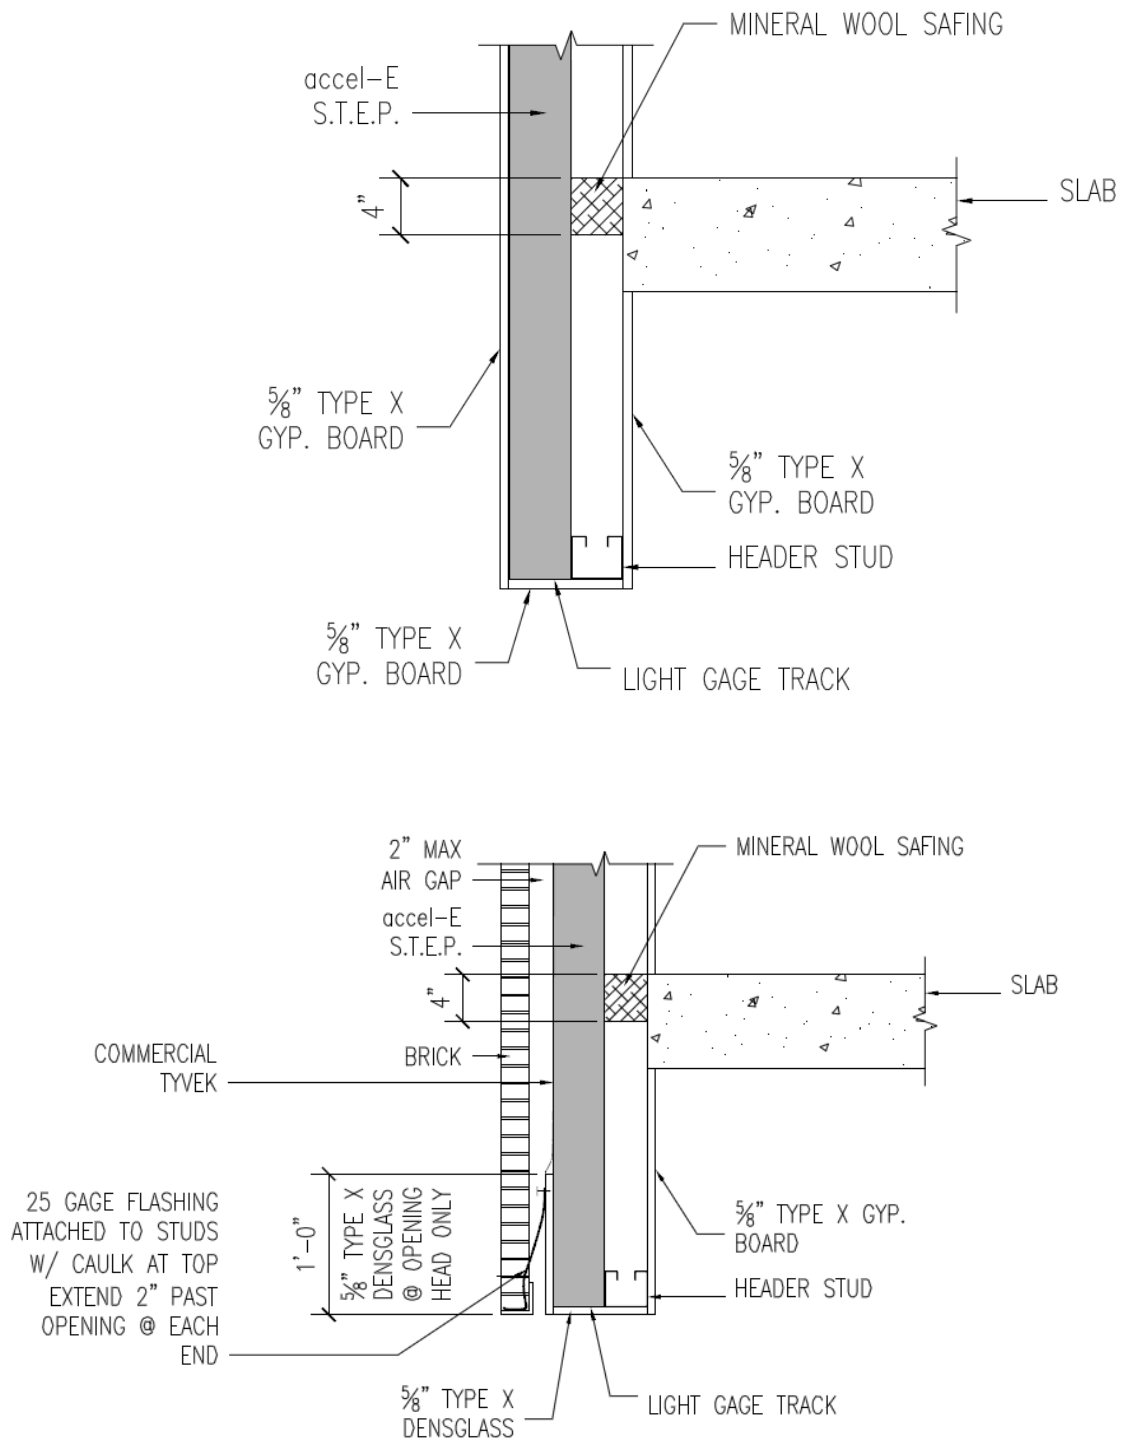

Figure 9 – NFPA 285 Details
- Non-Load Bearing wall assemblies shown in Tables 11 and 12 meet NFPA 285 condition of acceptance for use in exterior walls of Type I, II, III or IV in accordance with Section 2603.5.5 of the IBC and FBC. See Figure 9 for typical installations.
<ul style="list-style-type: none"> 5/8" Type-X Gypsum Sheathing 5-1/2" accel-E® Panel Studs @ 24" O/C 2" R8.33 Glass Fiber Insulation 25 GA Resilient Channel spaced @ 24" O/C (2) Layers 5/8" Type X Gypsum <hr/> <p>See Figure 9 for additional NFPA 285 information.</p>
<ul style="list-style-type: none"> 5/8" Type-X Gypsum Sheathing 5-1/2" accel-E® Panel Studs @ 24" O/C 2" R8.33 Glass Fiber Insulation 25 GA Resilient Channel spaced @ 24" O/C 5/8" Type X Gypsum <hr/> <p>See Figure 9 for additional NFPA 285 information.</p>
Non-Load Bearing <ul style="list-style-type: none"> 5/8" Type X Gypsum Sheathing 5-1/2" accel-E® Panel Studs @ 24" O/C 3" Rockwool insulation 2.5 pcf density 5/8" Type X Gypsum See Figure 9 for additional NFPA 285 information.
Non-Load Bearing <ul style="list-style-type: none"> 5/8" Type-X Gypsum Sheathing 5-1/2" accel-E® Panel Studs @ 24" O/C 5/8" Type X Gypsum Note: Fire Rating is limited to fire exposure on the interior side See Figure 9 for additional NFPA 285 information.
Non-Load Bearing <ul style="list-style-type: none"> 5/8" Fiberglass Mats Exterior Gypsum Sheathing 5-1/2" accel-E® Panel Studs @ 24" O/C 5/8" Type-X Gypsum See Figure 9 for additional NFPA 285 information.
<ul style="list-style-type: none"> 4" Nominal Clay Brick Veneer 2" Maximum Air Gap Dupont Tyvek Commercial Wrap 5-1/2" accel-E® Panel Studs @ 24" O/C 5/8" Type-X Gypsum <p>Alternative Exterior Veneers:</p> <ul style="list-style-type: none"> 4" (min.) nominal concrete masonry units (CMU) 2" thick stone (slab-type veneer) with full mortared joints 7/8" Stucco – cement plaster and lath. <p>The water-resistive barrier shall not be asphalt or butyl-based membranes.</p> <p>See Figure 9 for additional NFPA 285 information.</p>
Non-Load Bearing <ul style="list-style-type: none"> 5/8" Type-X Gypsum Sheathing 8" accel-E® Panel Studs @ 24" O/C 3-1/2" R13 Glass Fiber Insulation 25 GA Resilient Channel spaced @ 24" O/C 5/8" Type X Gypsum <hr/> See Figure 9 for additional NFPA 285 information.
Non-Load Bearing <ul style="list-style-type: none"> (2) Layers 5/8" Type "X" Gypsum 8" accel-E® Panel Studs @ 24" O/C (2) Layers 5/8" Type "X" Gypsum <hr/> See Figure 9 for additional NFPA 285 information.
<ul style="list-style-type: none">▪ 4" Nominal Clay Brick Veneer▪ 2" Maximum Air Gap▪ Dupont Tyvek Commercial Wrap▪ 8" accel-E® Panel Studs @ 24" O/C▪ 5/8" Type-X Gypsum <hr/> <ul style="list-style-type: none">▪ Alternative Exterior Veneers:<ul style="list-style-type: none">○ 4" (min.) nominal concrete masonry units (CMU)○ 2" thick stone (slab-type veneer) with full mortared joints○ 7/8" Stucco – cement plaster and lath. <p>The water-resistive barrier shall not be asphalt or butyl-based membranes.</p> <hr/> <p>See Figure 9 for additional NFPA 285 information.</p>